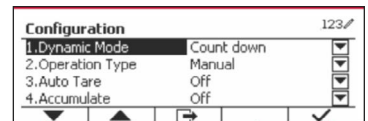

Figure 77
1. Press the button corresponding to the  icon to enter Configuration Menu. (See Figure 77)